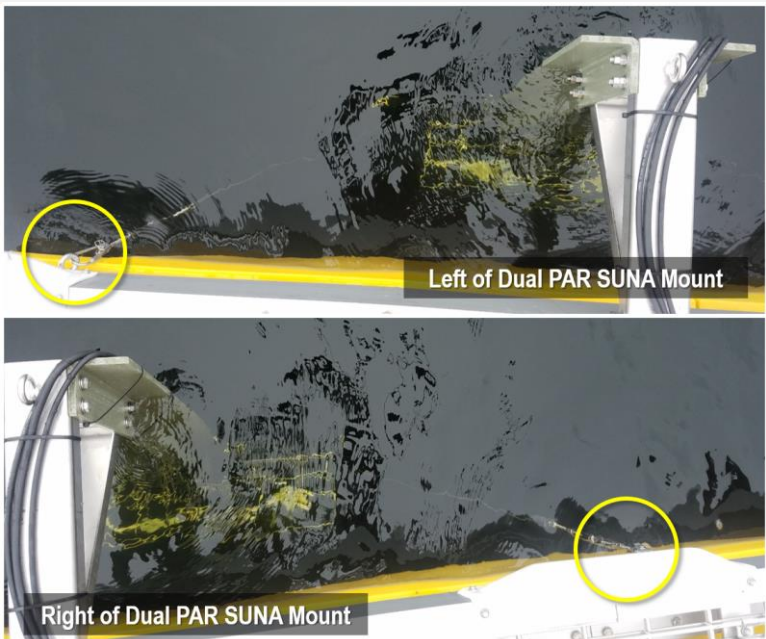

Figure 67. Underwater Eyebolts for Dual PAR SUNA Mount
STEP 10 | Re-attach the guy-wires via the locking carabineers to each eyebolt underwater (Figure 67).